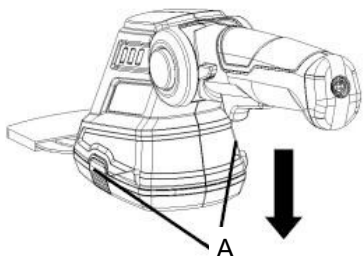

Fig. 9
1. Press the blade release button (A) and slide the blade downward to remove as shown. (Fig. 9)